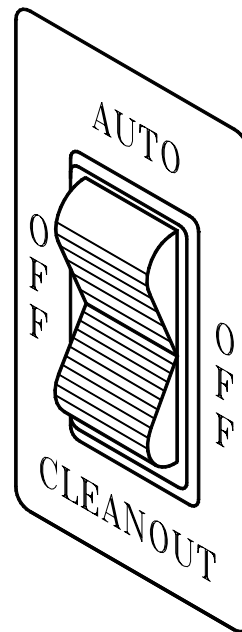

Fig. 2
4. **CAUTION:** Before performing the following procedure, be certain no one is close to the pulleys at the rear of the machine. Set the control switch (Fig. 2) to the "**CLEANOUT**" position momentarily to verify the direction of rotation of the dasher pulley (Exploded View). It should rotate clockwise (viewed from the rear of the machine).